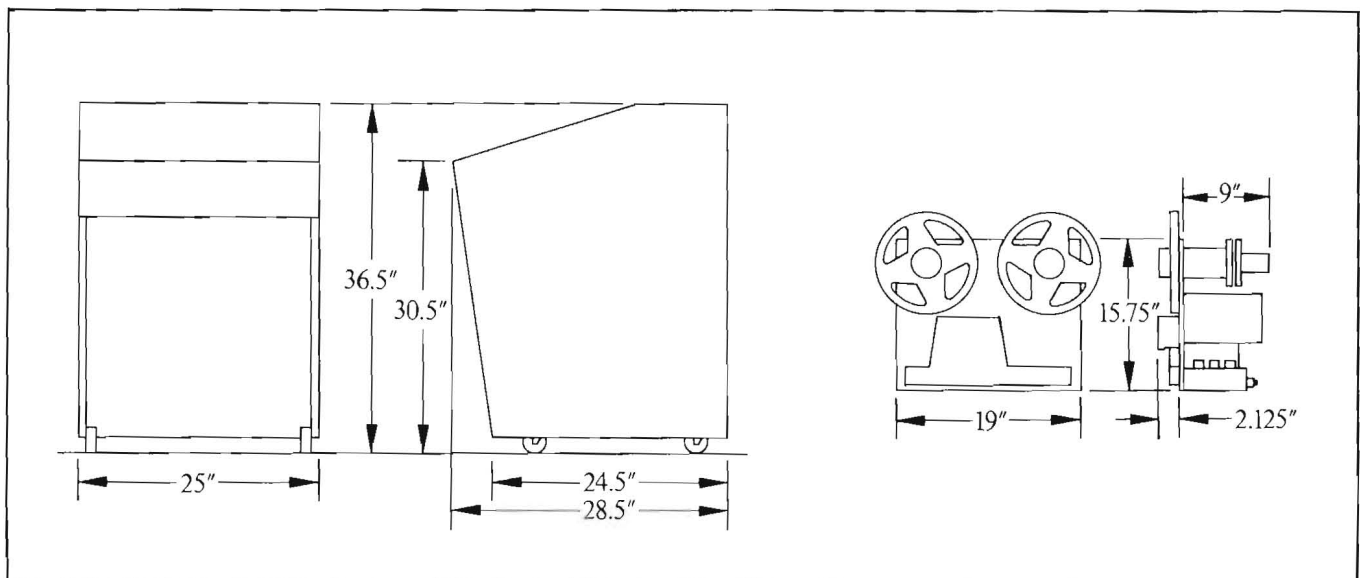

Figure 2-1. Mounting Dimensions
2.2 The 285B is installed in the same manner described in the 280B technical manual. Figure 2-1 shows the mounting dimensions of the 285B.